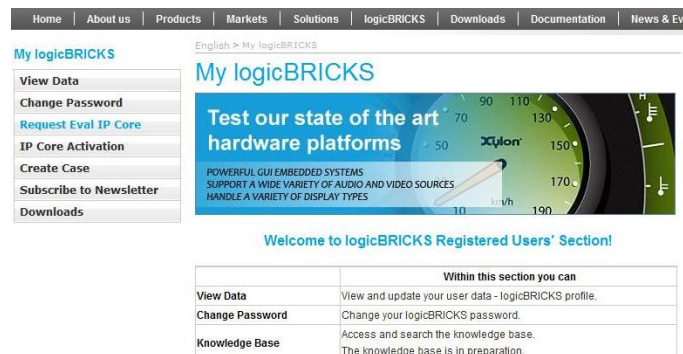

Figure 15: Step 1 – My logicBRICKS Navigation Page
Step 1 – Logged in users get the “My logicBRICKS” tab in the main www.logicbricks.com navigation menu. Click on it, and you will be directed to your main web page for communication with Xylon logicBRICKS – Figure 15. Please select the “Request Eval IP Core” tab in the left menu.